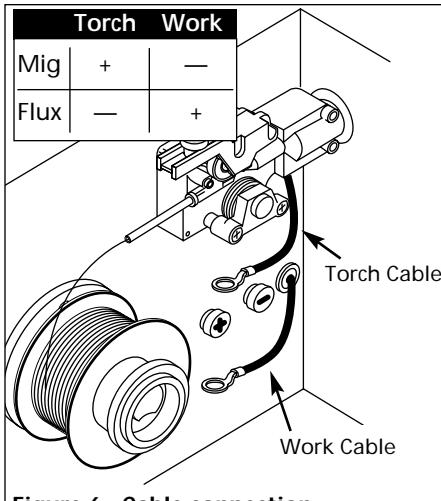

Figure 6 - Cable connection
2. Locate red (+) and black (-) polarity connectors just below wire feed mechanism (See Figure 6).